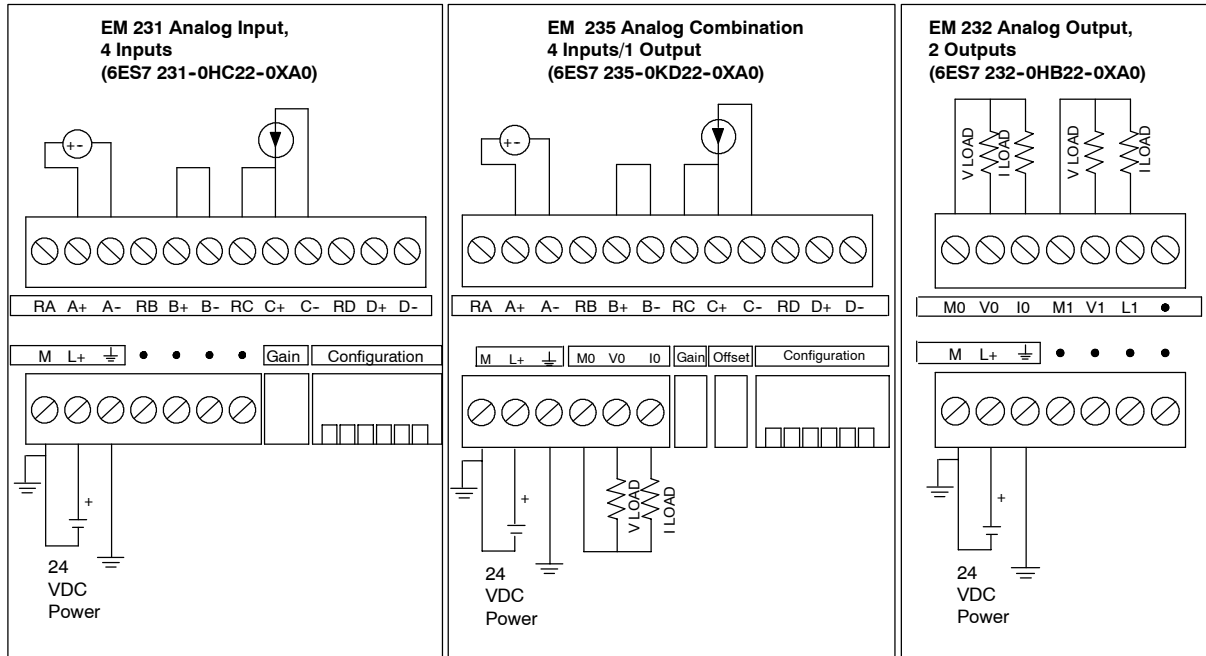

Figure A-9 Wiring Diagrams for Analog Expansion Modules
- Short the inputs for any unused channels, as shown in Figure A-9.